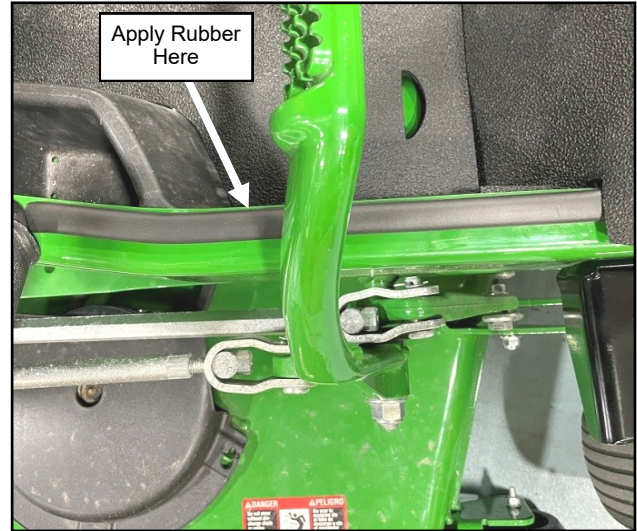

Fig. 1.41 (Install Rubber to Vehicle's Frame, Right)
- 1.41** Clean the vehicle frame rails on either side of the floorboard. Apply P.S.A. D-Rubber (9PR09) to the top surface of the frame rails. Apply along the inner edge of the surface as shown in Figure 1.41. Repeat for left side.